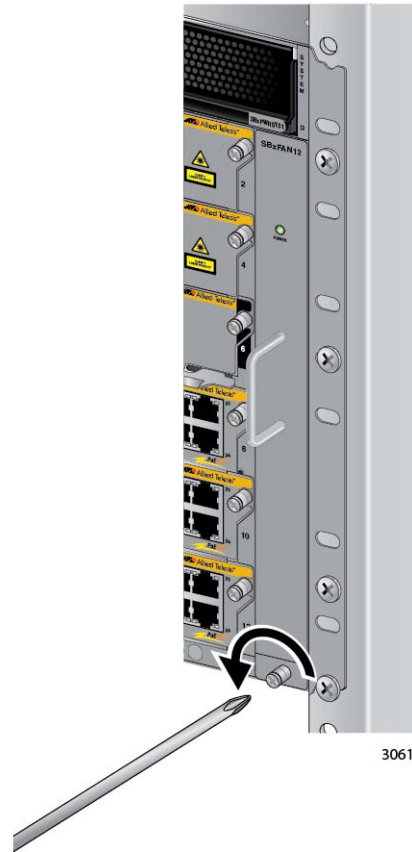

Figure 156. Loosening the Screw on the AT-SBxFAN12 Fan Module
2. Use a #2 Phillips head screwdriver to loosen the screw at the base of the fan module. Refer to Figure 156 on page 244.